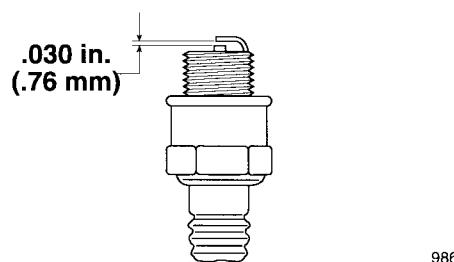

Figure 29
3. Set air gap at 0.030" (0.76 mm) (Fig. 29). Install correctly gapped spark plug and gasket seal. Tighten plug firmly to 15 ft-lb (20 N·m).